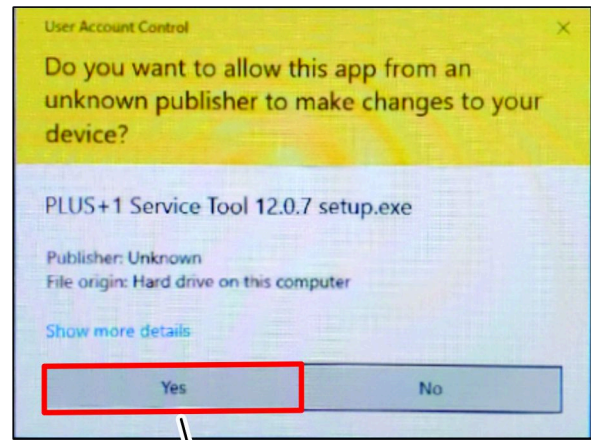

Figure 17
2. If the User Account Control dialog box displays, click the YES button (Figure 17).